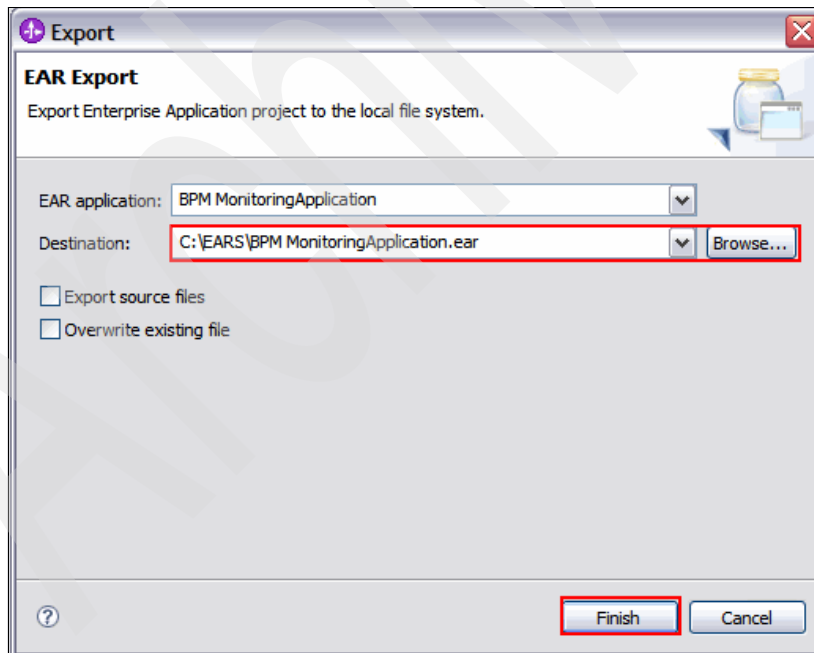

Figure 7-119 Exporting the EAR file
3. In the Export window (Figure 7-119), click the **Browse** button to select a destination, for example the C:\EARS directory. Then click **Finish**.